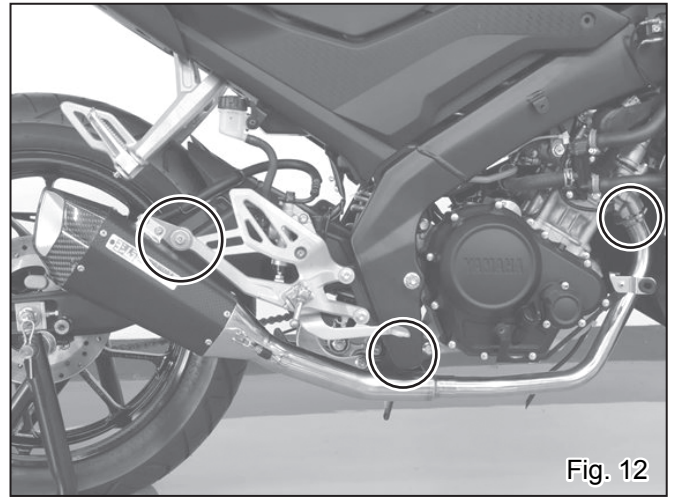

Fig. 12
- 9) Check that there are proper clearances between Yoshimura exhaust system and other components. Then, tighten and torque stock nuts on Flange, Cap Bolt M8x20, Button Bolt M6x20 and Cap Bolt M8x45 in order (See Fig. 12 on next page).